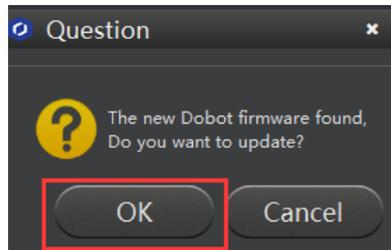

Figure 5.63 Confirm the firmware upgrade
2. Click **OK**, as shown in Figure 5.63.